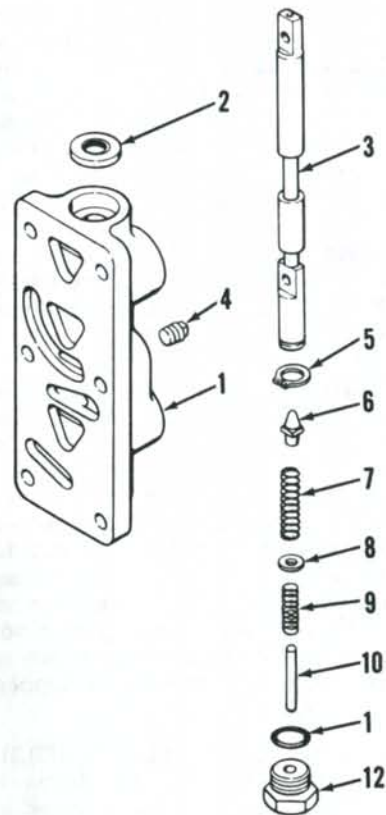

Fig. 93—Exploded view of master clutch valve assembly.
100. **R&R AND OVERHAUL.** To remove master clutch valve, first disconnect pedal cable linkage from spool. Disconnect hydraulic lines. Cap or plug hydraulic openings. Unbolt and remove valve assembly from tractor. Remove and discard gasket. Refer to Fig. 93 and remove plug and pin assembly (items 6 through 12). Remove spool (3) from bottom of valve body (1). Remove snap ring (5) from spool. Pry spool seal (2) from valve body.